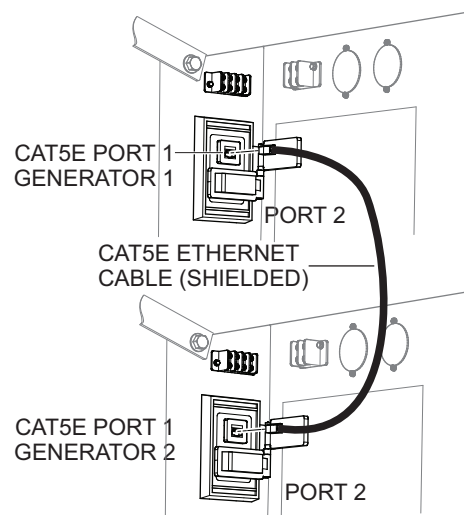

Figure 4. Ethernet Cable Connection
1. Connect a shielded CAT5E ethernet cable between port 1 on both generators as shown in Figure 4.